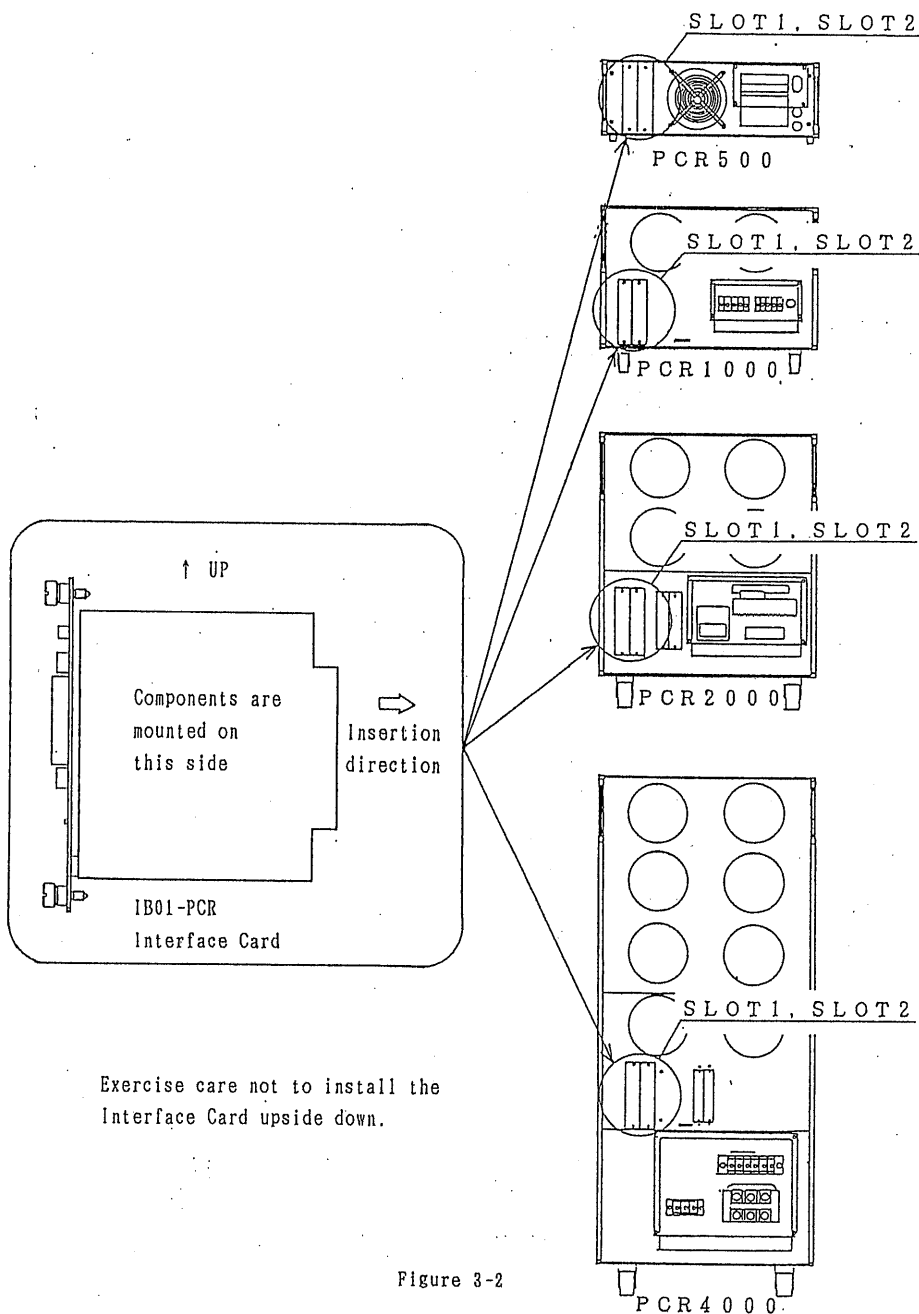

Figure 3-2
- (1) Insert the interface in SLOT 1 or SLOT 2 at the rear of the converter and securely fix the interface with the clamping-screws using a screw-driver. (See Figure 3.2.)